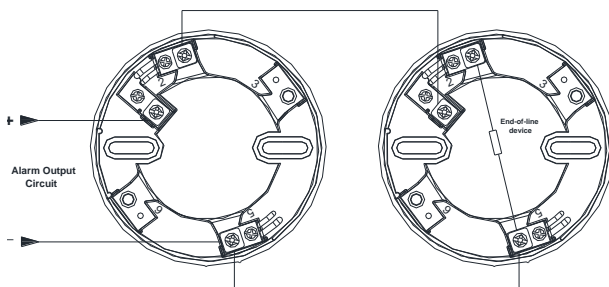

Fig. 1: Base wiring connections for single trigger alarms
- See Fig. 1 for single trigger alarms.